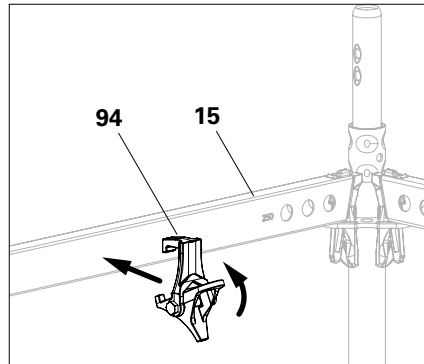
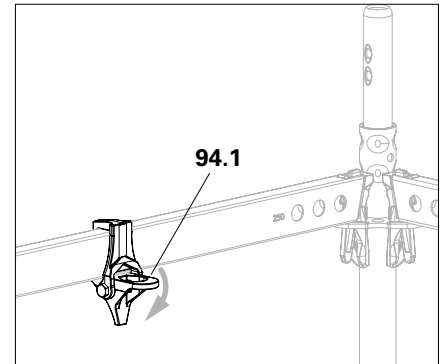

Fig. A11.07a
Fig. A11.07b
1. Unfold the Ledger to Ledger Coupler UHA-2 (94), push it onto the ledger (15) and release it.
- The ledger-to-ledge coupler (94.1) tilts into the horizontal position and holds the ledger-to-ledge coupler in place. (Fig. A11.07a + Fig. A11.07b)